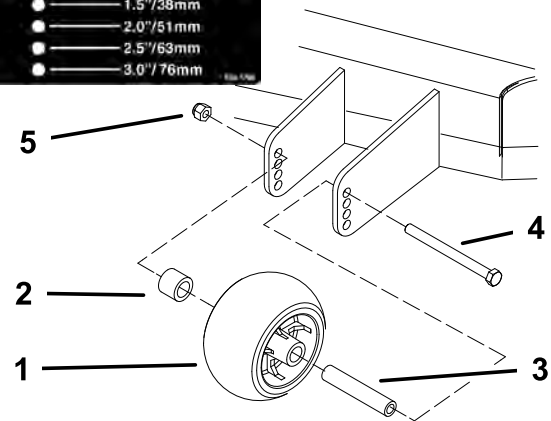
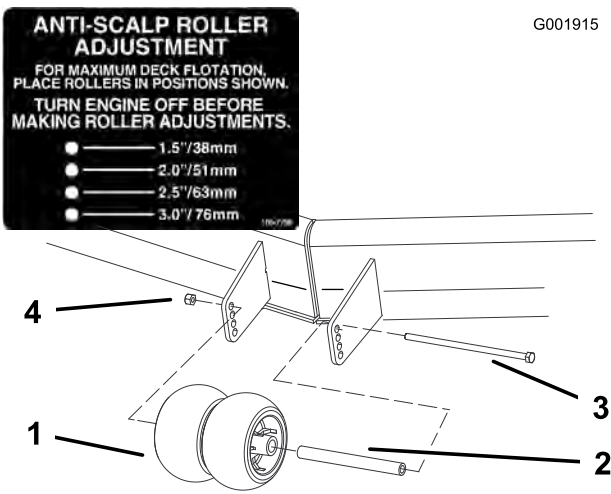

Figure 20
Figure 21
3. After adjusting the height-of-cut, adjust the rollers by removing the flange nut, bushing, spacer, and bolt (Figure 20 , Figure 21 and Figure 52).
- Note:** The two middle rollers will not have a spacer (Figure 21).
5. Install the flange nut bushing, spacer, and bolt. Torque to 40-45 ft-lb (54-61 N-m) (Figure 20 , Figure 21 and Figure 52).